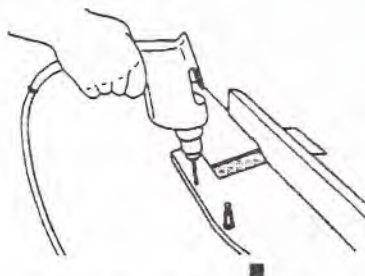

Fig. 8
15. Use a 7/32" (or #3) twist drill bit and variable speed drill to drill a hole through the table at the punch mark, as illustrated in Fig. 8. Use a square to make sure that you drill the hole perpendicular to the surface of the table.